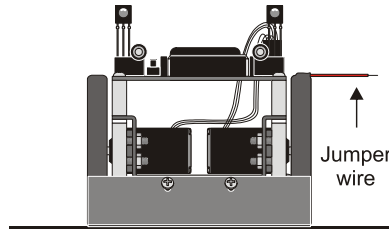

Figure 1-7
- √ Slip a jumper wire under one of the rubber band tires as shown in Figure 1-7. This will serve as a marker for counting wheel revolutions.